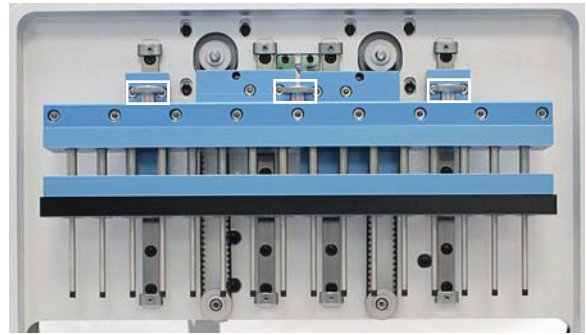

Figure 38. LEV Magnetic Rod Assembly and thumbscrews.
4. Unscrew the three thumbscrews (boxes shown in Figure 38) on top of the Magnetic Rod Assembly.